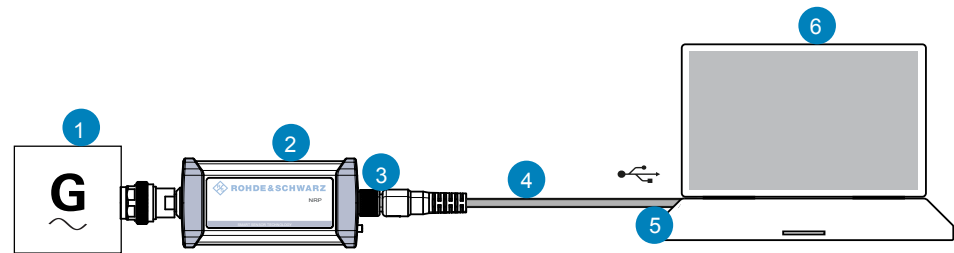

Figure 3-2: Configuration with a NRP-ZKU
1. Connect the cables as shown in Figure 3-2 :